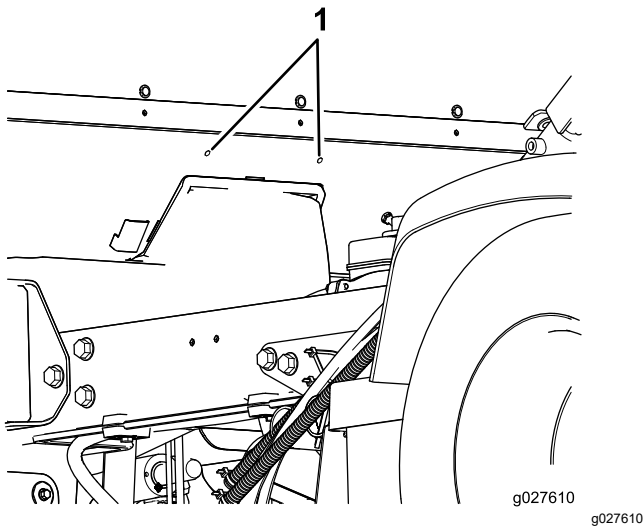

Figure 16
3. Locate the 2 holes 6.3 mm (1/4 inch) at the center of the rear panel of the cab (Figure 16).